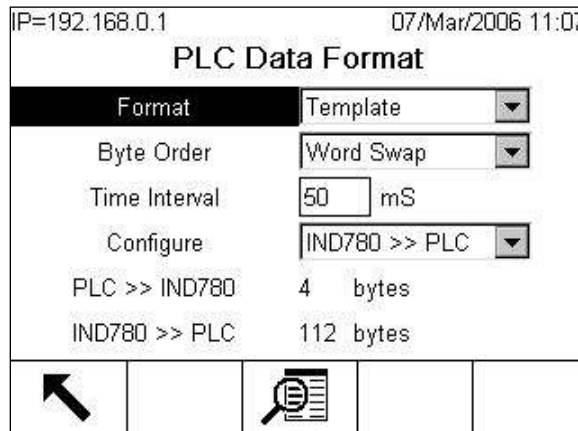

Figure 7-10: PLC Data Format Screen
- Figure 7-10 shows the screen with Template selected as the format, revealing the Time Interval, Configure, and directional displays. When Application format is selected, only the Format box appears on this screen.